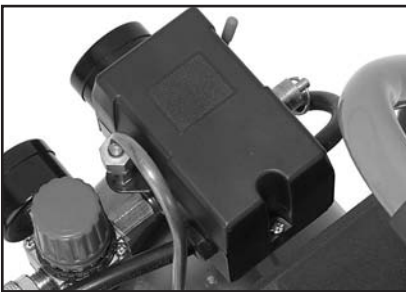

Figure 15. Pressure switch cover.
4. Remove the black AUTO/OFF switch cover (**Figure 15**) by removing the screw in the recess of the cover. Pull the black cover up and set it aside.